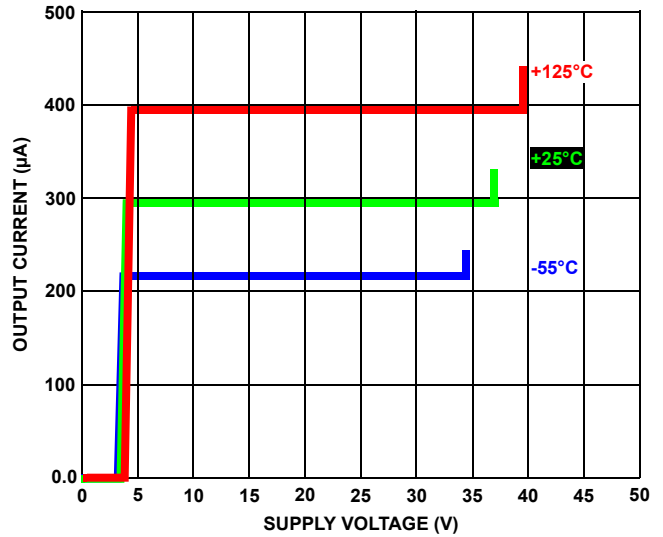

FIGURE 8. VI CURVE OF V_S vs I_{OUT} OVER TEMPERATURE
- The maximum voltage beyond which output current performance is not be considered valid (Figure 8).